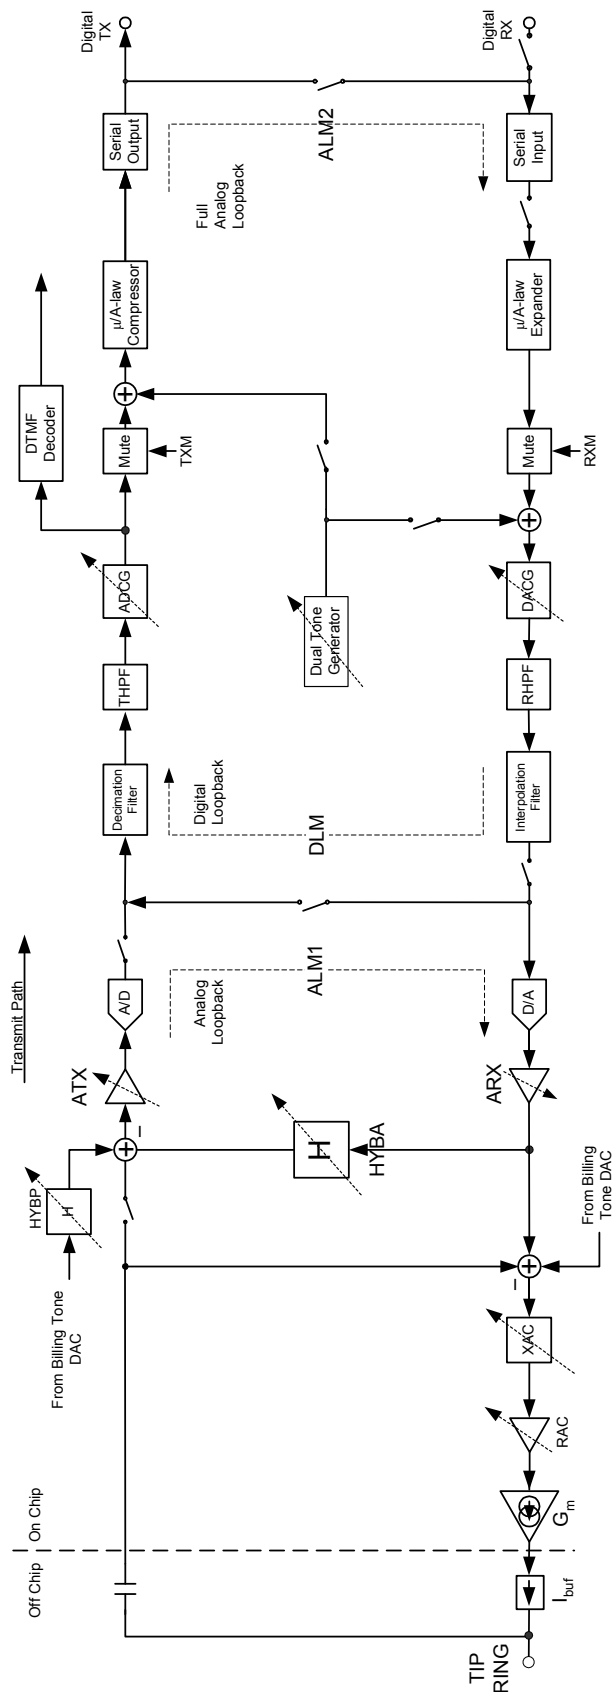

Figure 25. AC Signal Path Block Diagram
Unlike traditional SLICs, the codec function is integrated into the ProSLIC. The 16-bit codec offers programmable gain/attenuation blocks and several loopback modes. The signal path block diagram is shown in Figure 25.
The block diagram for the voice-band signal processing paths is shown in Figure 25. Both the receive and transmit paths employ the optimal combination of analog and digital signal processing to provide maximum performance while offering sufficient flexibility to allow users to optimize for their particular ProSLIC application. All programmable signal-processing blocks are indicated symbolically in Figure 25 by a dashed arrow across them. The two-wire (TIP/RING) voice-band interface to the ProSLIC is implemented using a small number of external components. The receive path interface consists of a unity-gain current buffer, I_{BUF} , while the transmit path interface is simply an ac coupling capacitor. Signal paths, although implemented differentially, are shown as single-ended for simplicity.
The ProSLIC provides programmable transhybrid balance with gain block H. (See Figure 25.) In the ideal case, where the synthesized SLIC impedance exactly matches the subscriber loop impedance, the transhybrid balance should be set to subtract a -6 dB level from the transmit path signal. The transhybrid balance gain can be adjusted from -2.77 dB to $+4.08$ dB around the ideal setting of -6 dB by programming the HYBA[2:0] bits of the Hybrid Control register (direct Register 11). Note that adjusting any of the analog or digital gain blocks will not require any modification of the transhybrid balance gain block, as the transhybrid gain is subtracted from the transmit path signal prior to any gain adjustment stages. If desired, the transhybrid balance can also be disabled using the appropriate register setting.
- The full analog loopback (ALM2) tests almost all the circuitry of both the transmit and receive paths. The compressed 8-bit word transmit data stream is fed back serially to the input of the receive path expander. (See Figure 25.) The signal path starts with the analog signal at the input of the transmit
- An additional analog loopback (ALM1) takes the digital stream at the output of the A/D converter and feeds it back to the D/A converter. (See Figure 25.) The signal path starts with the analog signal at the input of the transmit path and ends with an analog signal at the output of the receive path. This loopback option allows testing of the analog signal processing circuitry of the Si3210 to be carried out completely independently of any activity in the DSP.
- The full digital loopback tests almost all the circuitry of both the transmit and receive paths. The analog signal at the output of the receive path are fed back to the input of the transmit path by way of the hybrid filter path. (See Figure 25.) The signal path starts with 8-bit PCM data input to the receive path and ends with 8-bit PCM data at the output of the transmit path. The user can bypass the companding process and interface directly to the 16-bit data.
Real and complex two-wire impedances are realized by internal feedback of a programmable amplifier (RAC), a switched capacitor network (XAC), and a transconductance amplifier (G_m). (See Figure 25.) RAC creates the real portion, and XAC creates the imaginary portion of G_m 's input. G_m then creates a current that models the desired impedance value to the subscriber loop. The differential ac current is fed to the subscriber loop via the ITIPP and IRINGP pins through an off-chip current buffer, I_{BUF} , which is implemented using